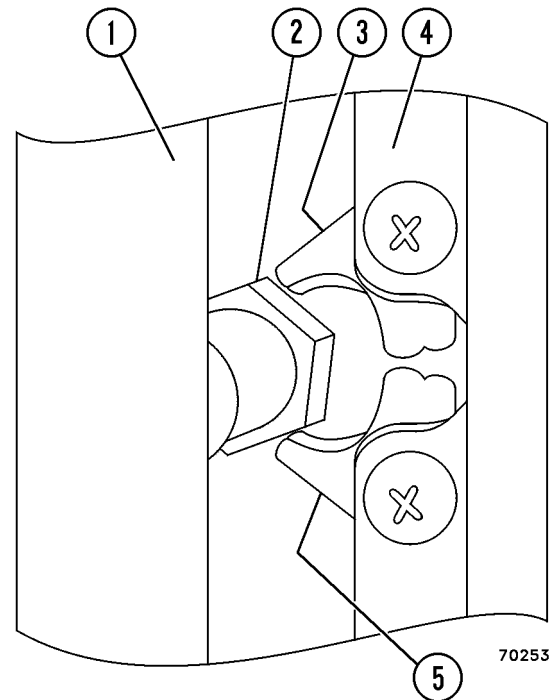

FIGURE 2-4. DOOR JAMB BOLT ADJUSTMENT
Step B. If the door bucks back when trying to close it, the striker bolt (2, Figure 2-4) has probably loosened and slipped down from where the catch can engage with the bolt.
1. Open the door and close both claws (3 & 5, Figure 2-4) on the catch until they are both fully closed.